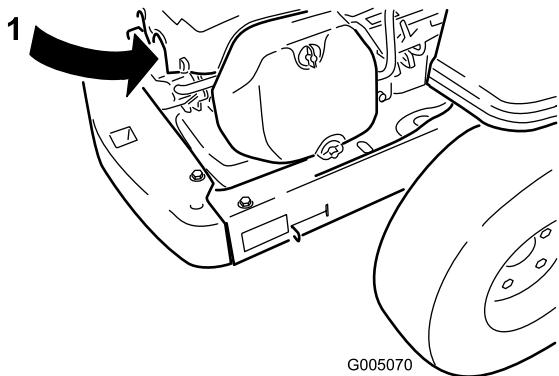

Figure 26
- Pull the wire off of the spark plug (Figure 26). Clean around the spark plug to prevent dirt from falling into the engine and potentially causing damage.
3. Push the wire onto the spark plug (Figure 26).